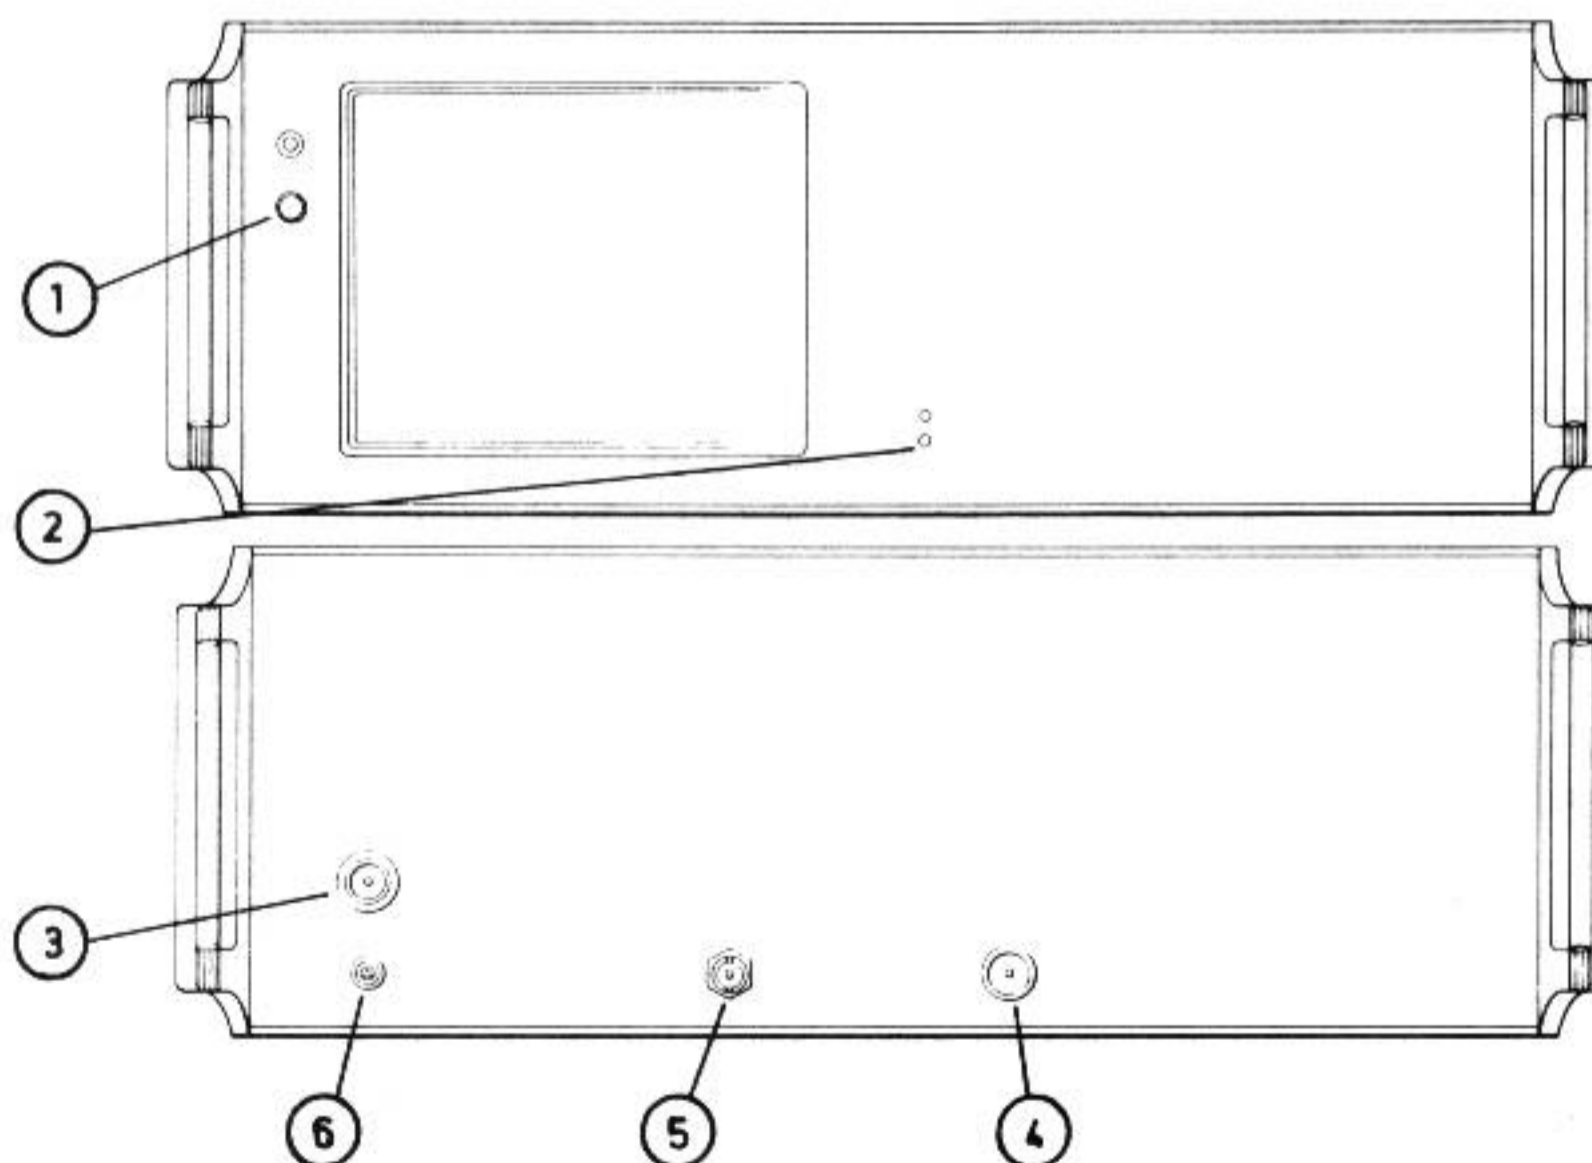

Fig. 1 Front panel inputs, outputs and indicating lights
Front panel (refer to Fig. 1)
15. Fit the supply lead 43129-003W into the power input connector [3], connect to supply and rotate the SUPPLY switch on the upper unit (refer Fig. 1 [1]) until the green indicator light is ON.
22. In order to see a signal display, connect a 50 Ω cable between the STD 10 MHz OUTPUT (Fig. 1 [5] and the INPUT (Fig. 1 [3])). The screen should display vertical bright lines corresponding to the 10 MHz signal and its harmonics. The fundamental can be identified as the largest spectral line a quarter of a division from the left hand side of the screen.